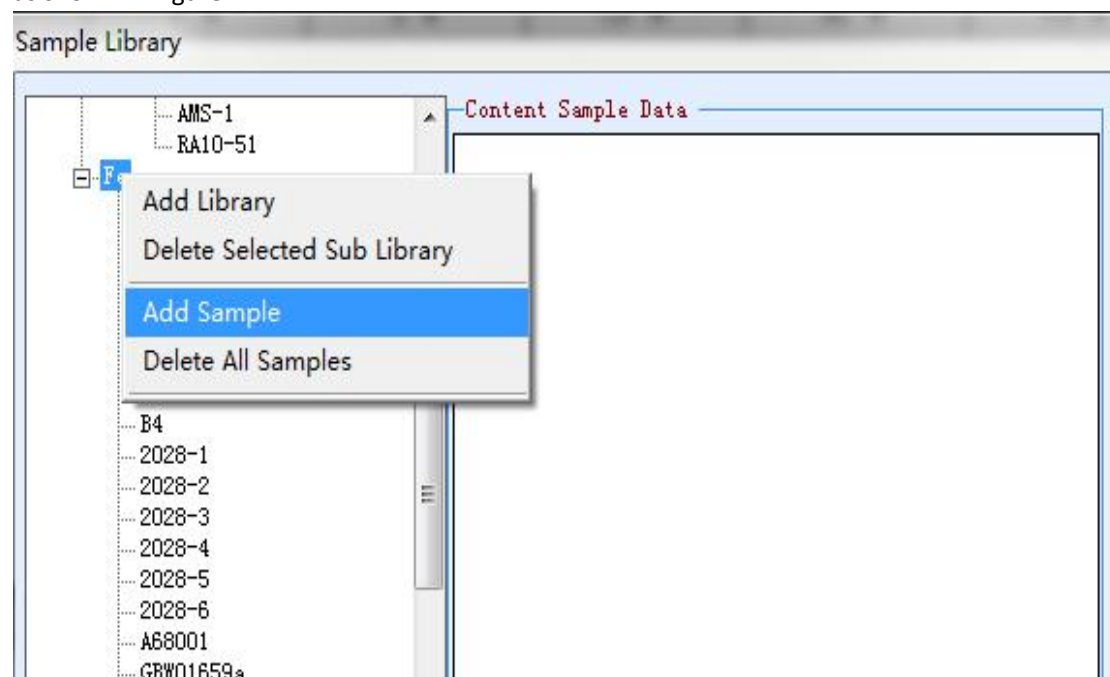

Figure 4-4 Adding a sample
Step 2 Find the corresponding classification, such as "alloy steel" right click, select "add sample", as shown in Figure 4-4: